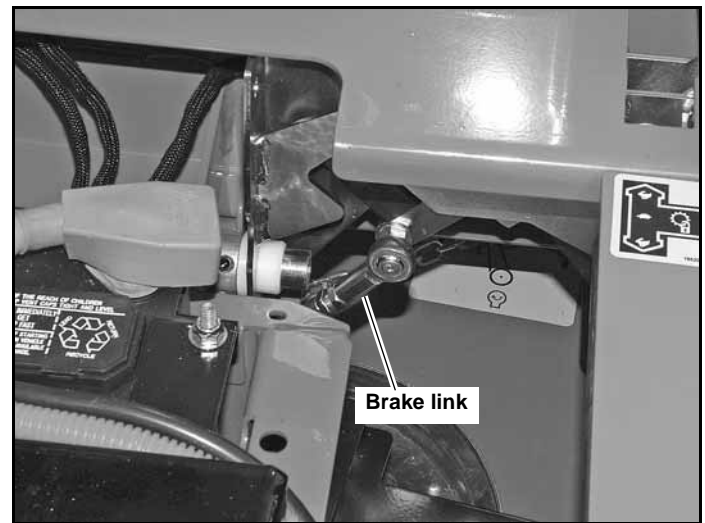

Figure 4-10
**NOTE:** The front brake link is not to be adjusted. Figure 4-10